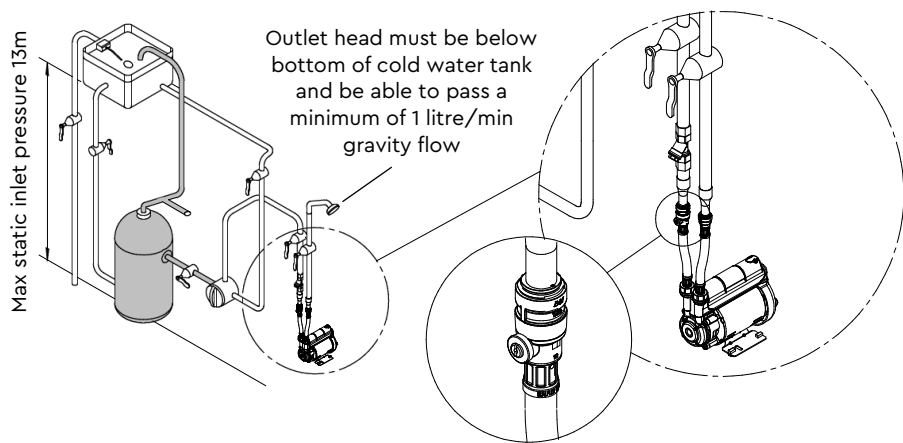
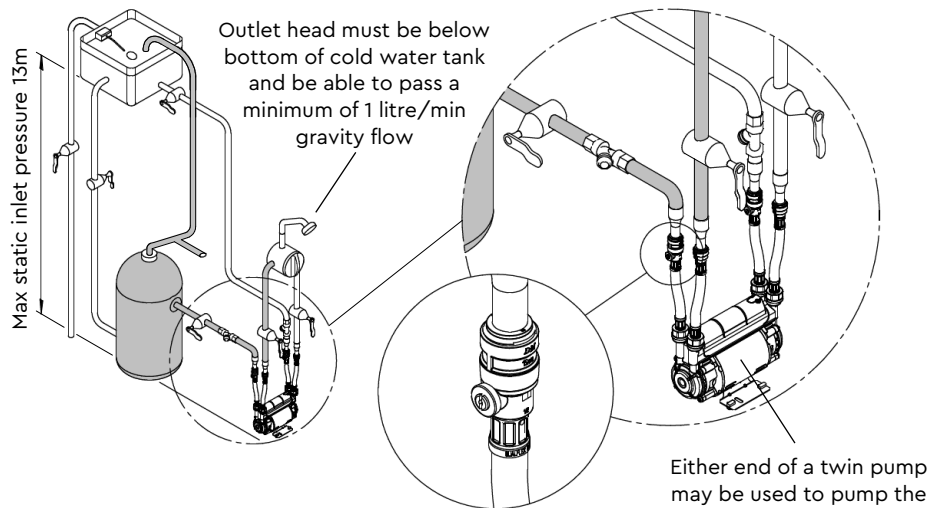

Figure 4
Figure 5
- **Static inlet pressure:** Before deciding where to locate the unit, check to ensure the static inlet head between pump and the bottom of the cold water tank (Figure 4 and Figure 5), is at least 0.5 metres and does not exceed the max inlet head of 10 metres or 13 metres depending on the model (See Sections 10 and 11 – Technical Specifications).